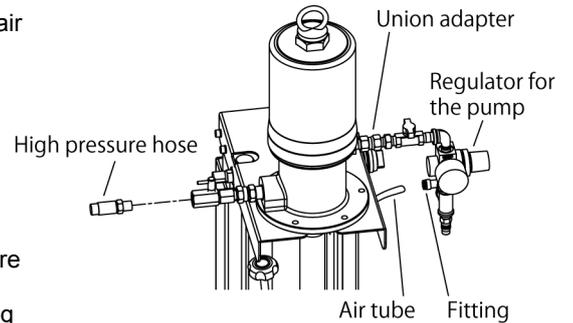

Fig. 2
- 3) Attach the supplied air regulator onto the union adapter located at the air inlet of the pump. (Fig. 2)
- 4) Attach the provided air tube for the lift to the fitting located at the air inlet of the pump. Make sure it wouldn't be pulled out. (Fig. 2)
- 5) Connect a high-pressure grease hose to the grease outlet (check valve) and tighten it securely. (Fig. 2)